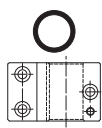
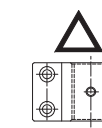

Fig. 10
Fig. 11
② When installing a spindle to the holder, recommended installation method is shown Fig 10. Refer to "③ How to fabricate the Split Type Holder". If this is not possible, install as shown in Fig. 11.